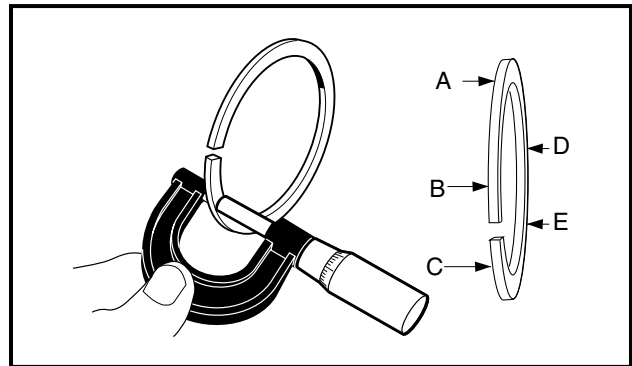

Figure 18-46 Measure Piston Ring Thickness
4. Use a micrometer to measure the thickness of both piston rings at several points around the rings (**Figure 18-46, Page 18-25**).